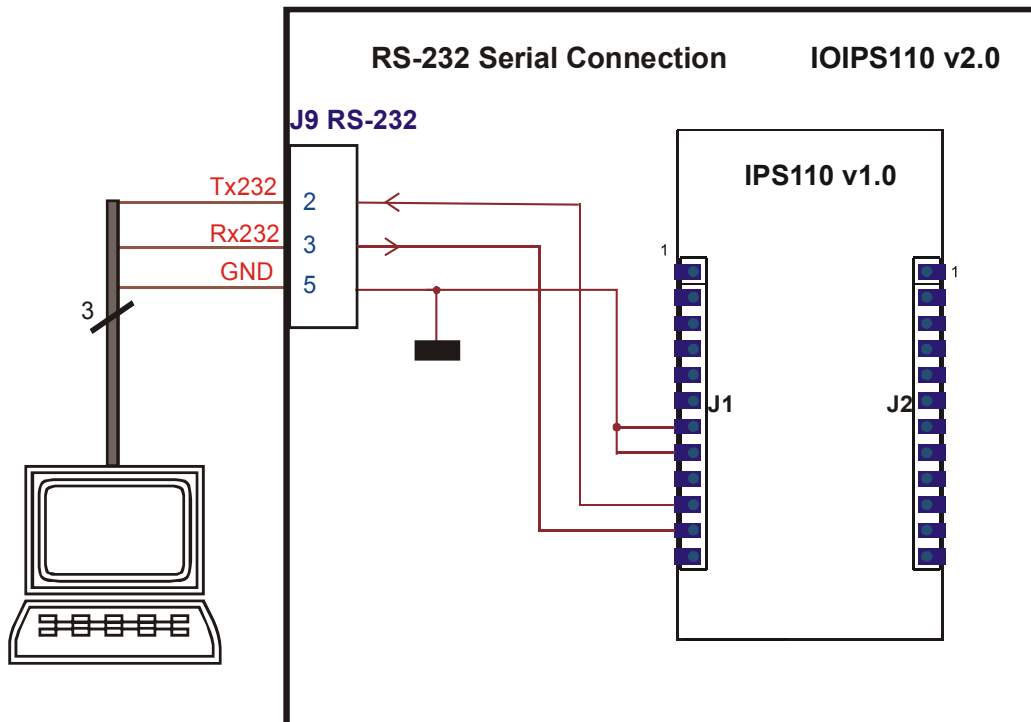

Figure 3. RS-232 connection diagram
3. Connect the IOIPS110 board to the PC computer as you can see in the Figure 3.